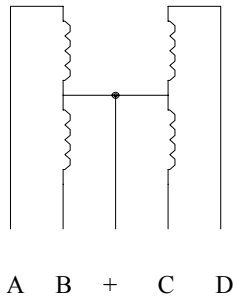
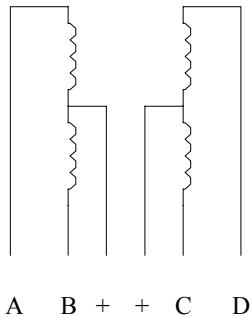

Fig 1. Five-wire stepper motor
Fig 2. Six-wire stepper motor
2. **Unipolar motors.** These have two center-tapped coils which are treated as four coils. These motors can have **five, six or eight wires**. Five-wire motors have the two center-taps commoned internally and brought out as one wire (Fig 1). Six-wire motors bring out each center-tap separately. The two center-taps need to be commoned externally (Fig 2). Eight-wire motors bring out both ends of each coil. The four "center-taps" are joined externally to form one wire. In each case the center-tap(s) are connected to a positive motor power supply. Unipolar motors may be connect as bipolar ones by not using the '+' wires.